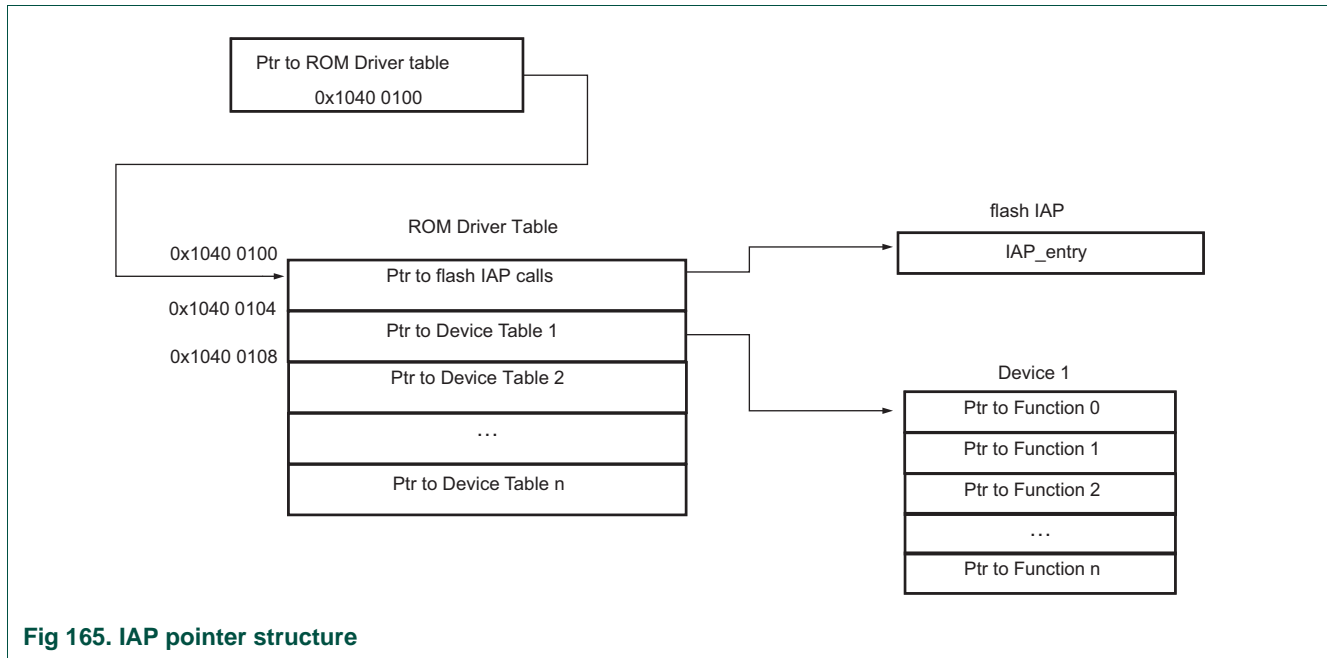

Fig 165. IAP pointer structure
1. Extract the IAP invoke call (`iap_entry`) entry pointer. The IAP invoke call is located in the IAP jump table which is pointed to by the ROM driver table at address `0x1040 0100 + 0x000`. See Figure 165.